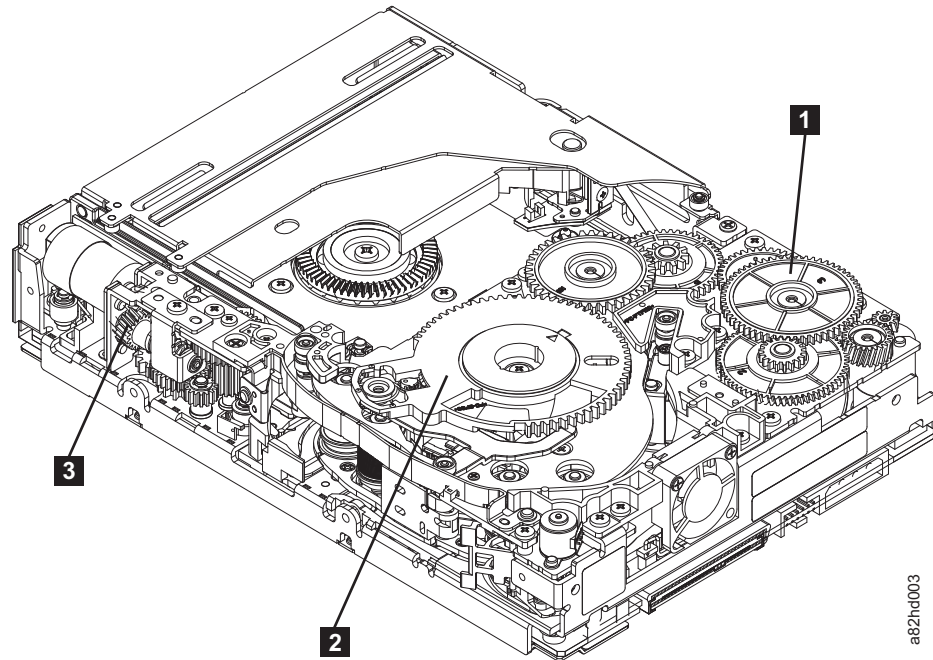

Figure E-7. Drive with cover removed to reveal gear train.
4. Locate the threader intermediate gear (**1** in Figure E-7) near the rear of the drive. You can use your finger to rotate the threader intermediate gear (**1** in Figure E-7) and slowly rotate the threader mechanism gear (**2** in Figure E-7) clockwise.
5. As the leader pin is secured in the cartridge, you hear the leader pin retention spring clips click into place. If you do not hear the click, continue rolling until the threader intermediate gear (**1** in Figure E-7) stops. The LBA is in the correct position.
6. Rotate the loader motor worm gear (**3** in Figure E-7) clockwise as viewed from the front of the drive until it stops. This action releases the LBA leader pin.
7. Rotate the threader intermediate gear ( **1** in Figure E-7 on page E-8) counterclockwise until the leader block is in front of the read/write head. This action moves the LBA out of the cartridge.
8. Rotate the loader motor worm gear ( **3** in Figure E-7 on page E-8) counterclockwise as viewed from the front of the drive until it stops.